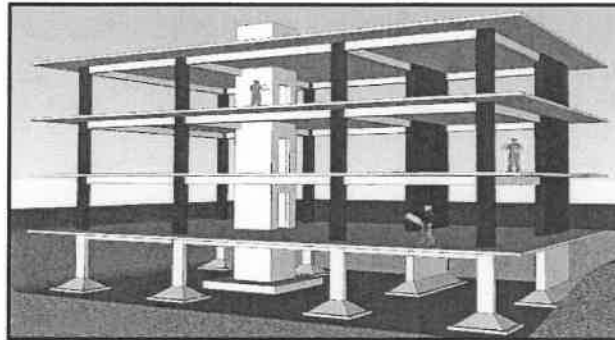

FIGURE 4.7
- 4.7 When constructing a building as in FIGURE 4.7, where large amounts of concrete is required, there are a lot of rules and regulations that need to be followed to prevent disastrous consequences, as witnessed recently. One of these is that the cube test must be performed on each mixture/batch of fresh concrete.